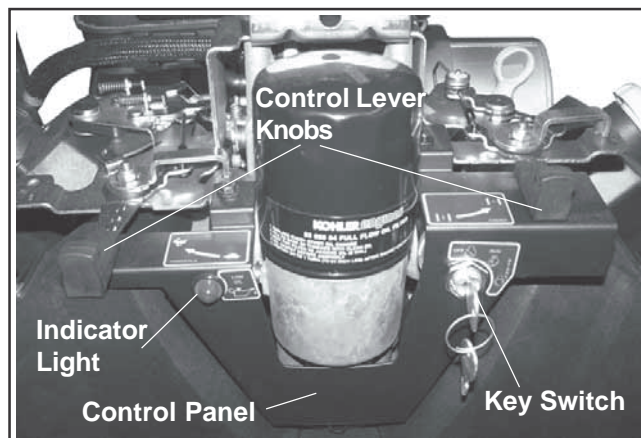

Figure 10-109. Control Panel.
1. Install the control panel to the main control bracket and oil filter housing. Torque the M6 screw going into the oil filter housing to 10.7 N·m (95 in. lb.) into a new hole, or 7.3 N·m (65 in. lb.) into a used hole. Torque the two upper M5 screws to 6.2 N·m (55 in. lb.) into new holes, or 4.0 N·m (35 in. lb.) into used holes. See Figure 10-109.